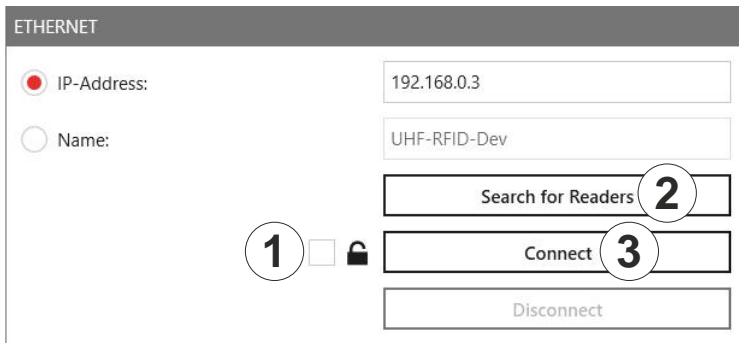

Fig. 27: Ethernet section
1. In the Ethernet section, click the box next to the lock symbol (① in Fig. 27).
2. Click **Search for Readers** (②) or **Connect** (③).